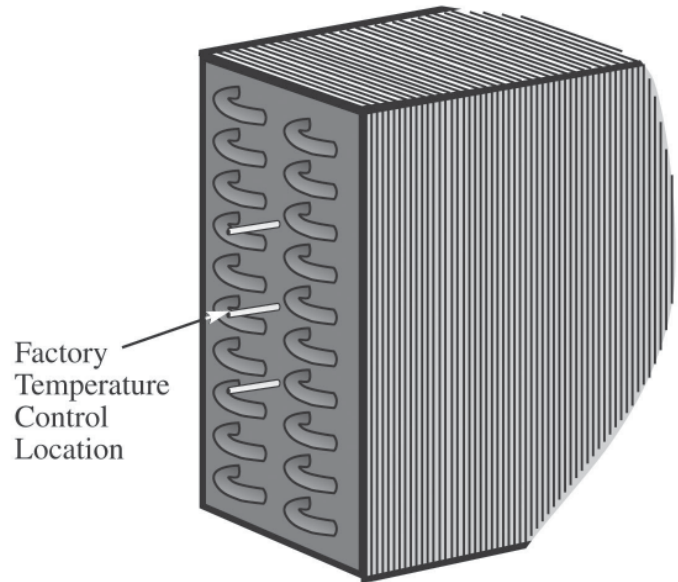

Figure 1
B. If the above does not give desirable results, further adjustments are possible in the field. Disconnect power to the cabinet. Remove the full length back panel that the temperature control is mounted to: (See figure 1 & 2)